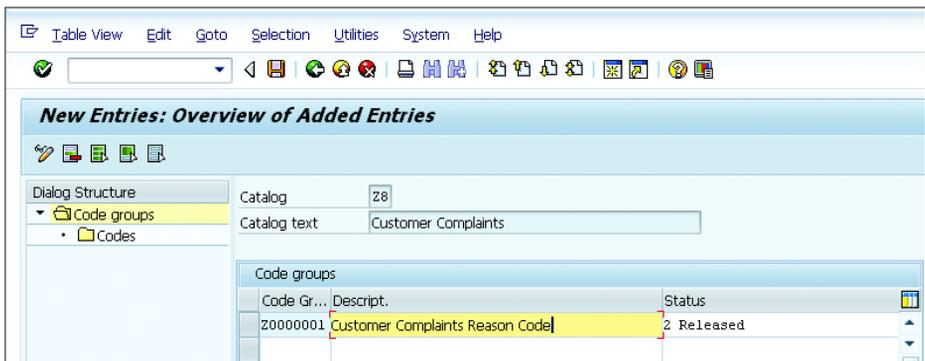

Figure 4.101 Maintaining Code Groups
- To define the code groups and codes for the catalog, go to SPRO • CRM • BASIC FUNCTIONS • CATALOGS, CODES AND PROFILES • DEFINE CODE GROUPS AND CODES FOR CATALOGS. Create a code group, as shown in Figure 4.101.